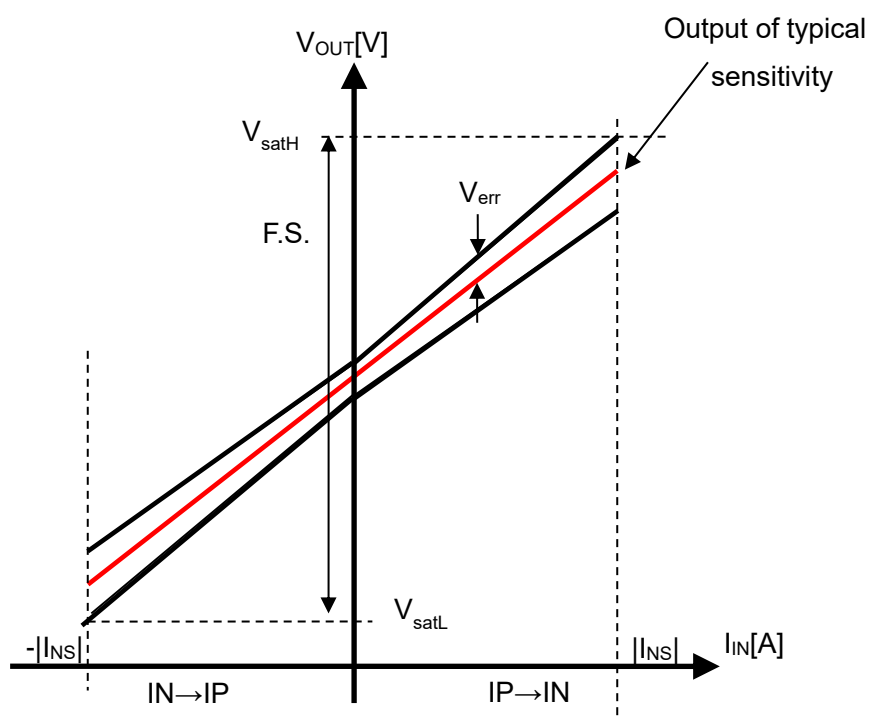

Figure 4. Total Accuracy of CZ-3AG2
10.2. Total Accuracy E_{total} [%F.S.] is defined as below (See Figure 4.)